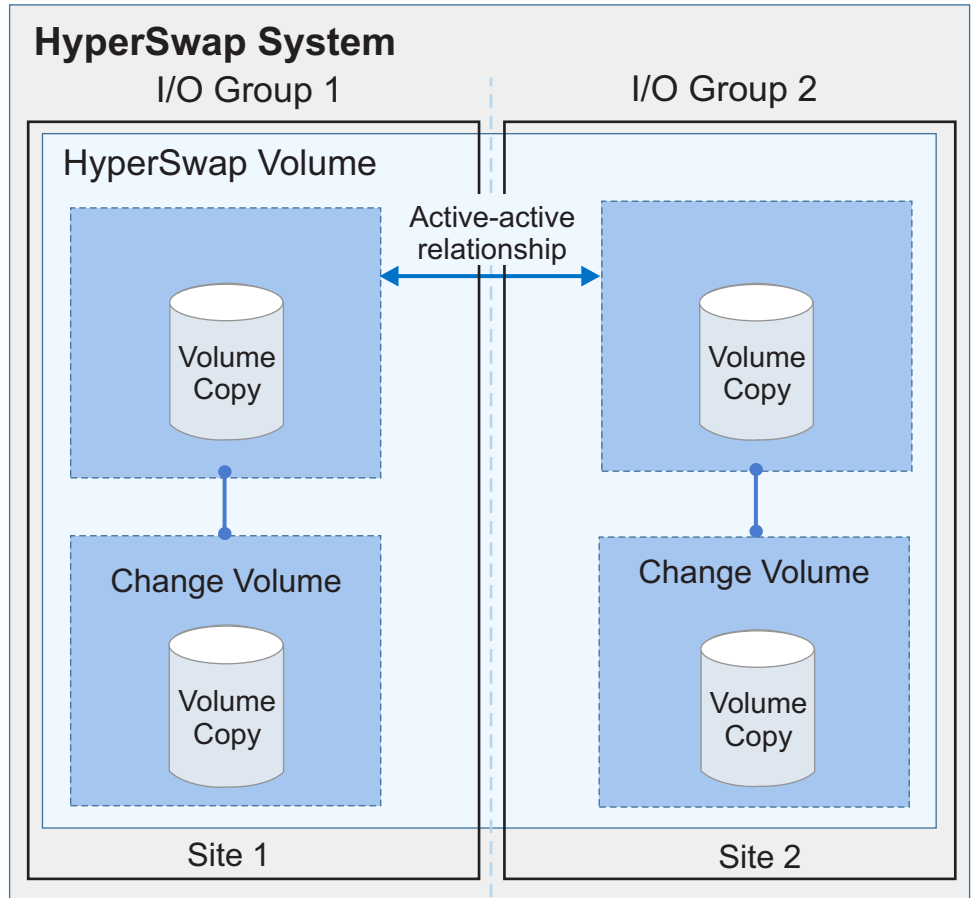

Figure 6. Example of HyperSwap volumes
- *HyperSwap volumes*, where copies of a single volume are in different storage pools that are on different sites. The volume is cached in two I/O groups that are on different sites, as Figure 6 on page 6 shows. These volumes can be created only when the system topology is HyperSwap.